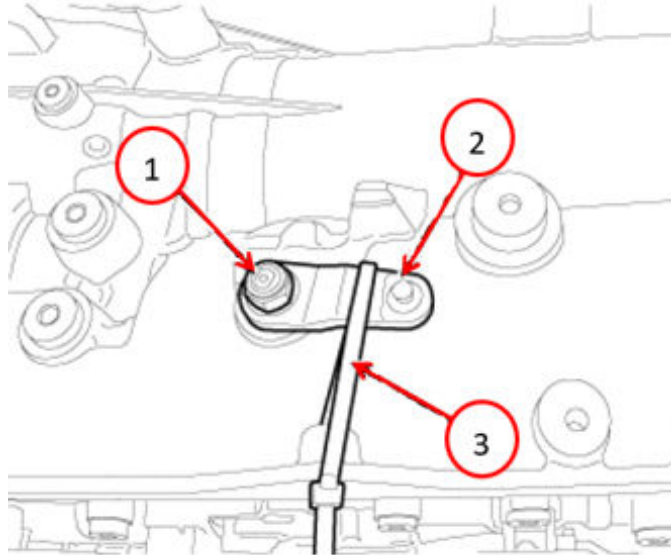

**Fig. 39**
58. Install the **NEW** oil pump cover retaining bolts and tighten the bolts as follows: Install the transmission oil pump assembly and secure using 14 **NEW** pump housing bolts Fig. 39.